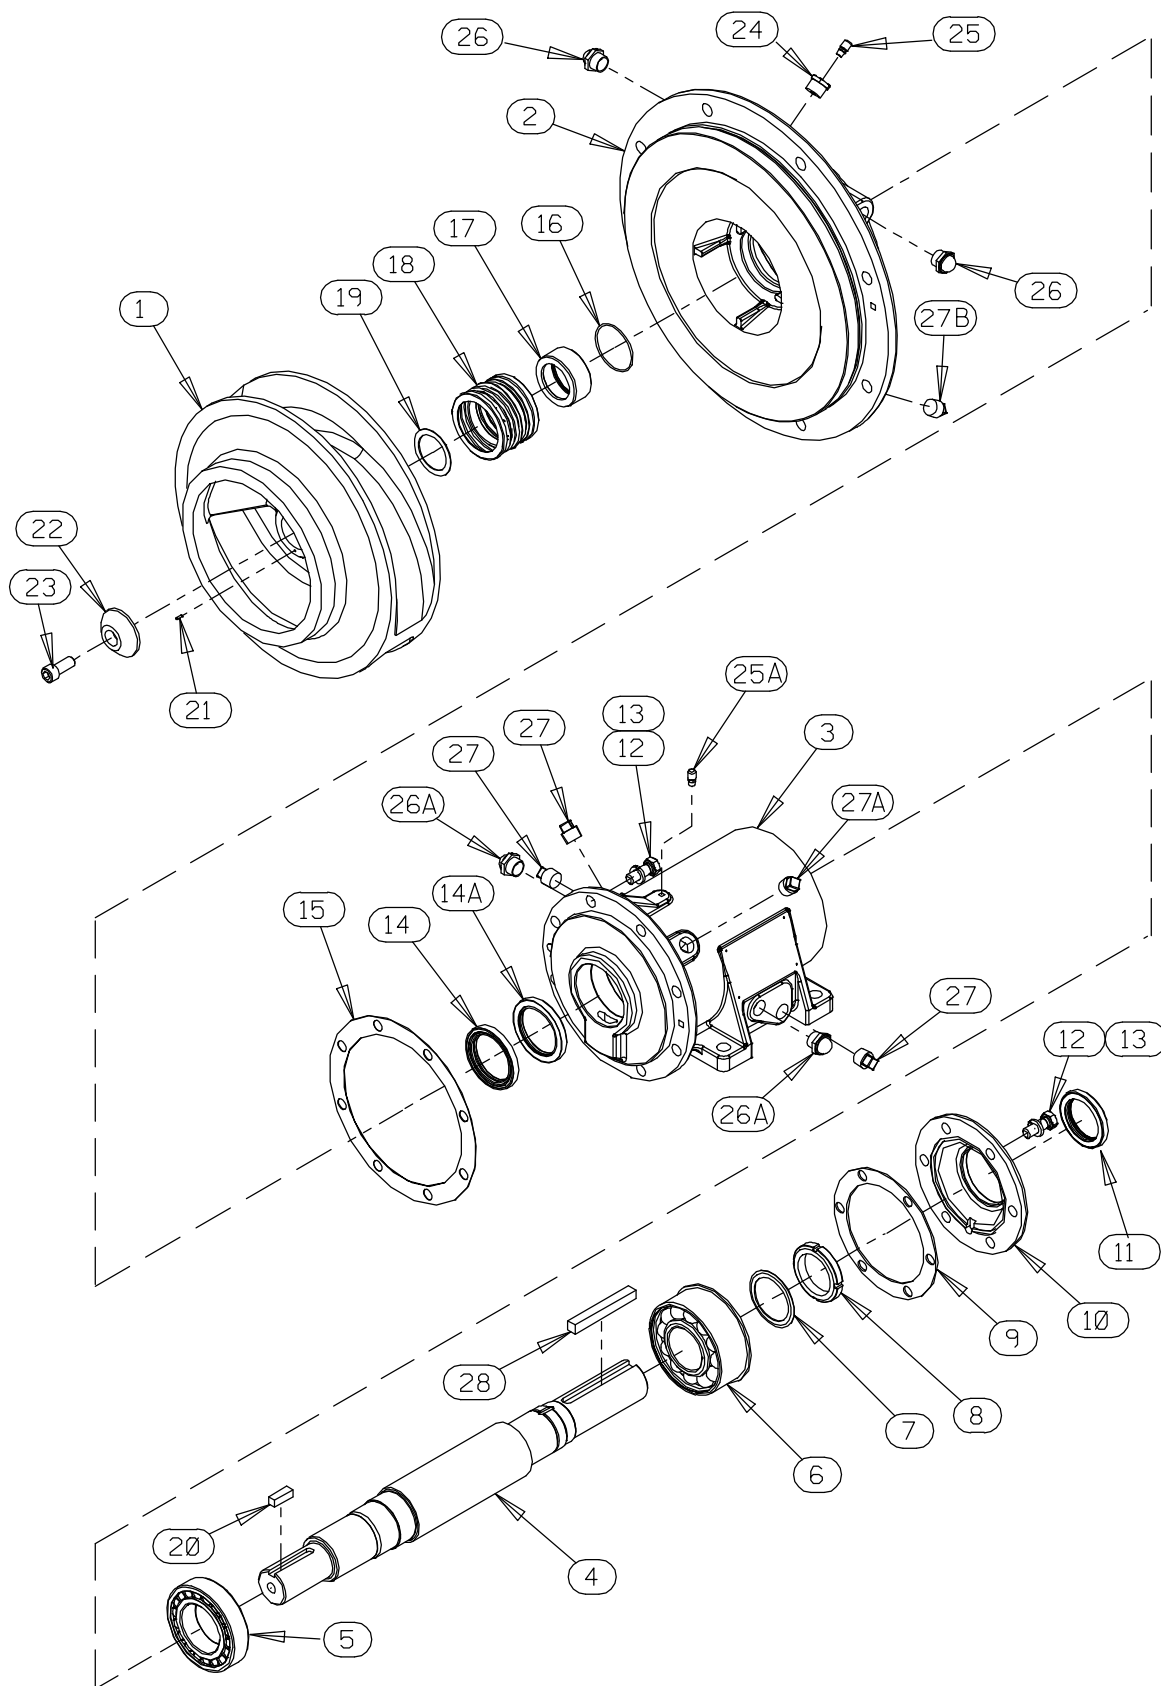

Figure 2. Repair Rotating Assembly
(Figure 2)
Further disassembly requires separating the rotating assembly from the power source. Remove the coupling securing the rotating assembly to the power source and remove the key (28, Figure 2).